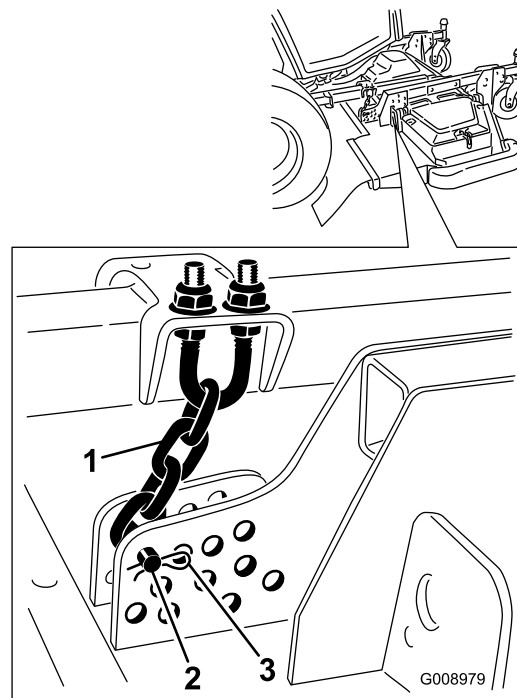

Figure 20
9. Remove the hairpin cotter and clevis pin securing the height-of-cut chains to the rear of the cutting unit (Figure 20).